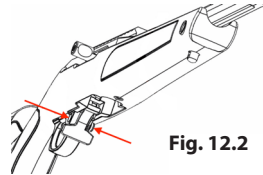

Fig. 12.2
- Put the safety in the central position and remove the stock (Fig. 12.2).